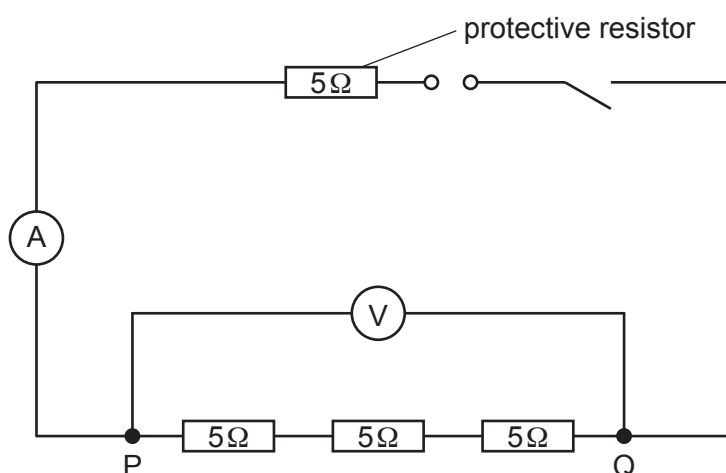

Fig. 2.1
- (ii) $5\ \Omega$, 2W resistor to be connected in series with the power supply as shown in Fig. 2.1. The purpose of this protective resistor is to limit the current to under 1A. It must be connected close to the power supply as shown in Fig. 2.1, so that it appears as part of the power supply.
- (v) Sufficient connecting leads to set up the circuit shown in Fig. 2.1 and four extra leads.
1. The circuit is to be set up for candidates as shown in Fig. 2.1. The three $5\ \Omega$ resistors with obscured values must be connected in series between two terminals labelled P and Q as shown in Fig. 2.1.
Connect the circuit as shown in Fig. 2.1 and check that the circuit is working.